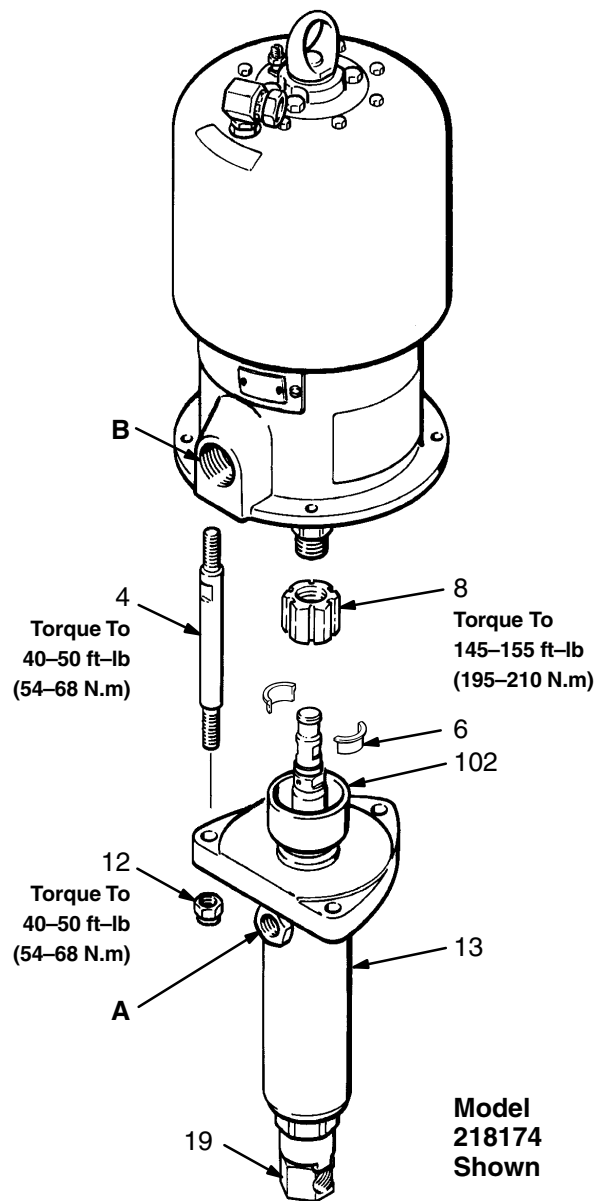

Fig 2
3. Screw the coupling nut (8) off of the air motor piston rod. Be careful not to lose the two couplers (6) as you lower the nut. Unscrew the tie rod locknuts (12) from the tie rods (4). Carefully pull the displacement pump (13) away from the air motor (1). See Fig 2.
1. Align the pump's fluid outlet (A) to the optional fluid outlet (B) of the air motor. Position the displacement pump (13) on the tie rods (4). See Fig 2.
2. Make sure the couplers (6) are in place inside the coupling nut (8). Screw the coupling nut up onto the air motor piston rod snugly. Screw the locknuts (12) onto the tie rods (4) loosely.
4. Tighten the tie rod locknuts (12) evenly, and torque to 40–50 ft–lb (54–68 N.m). Torque the coupling nut (8) to 145–155 ft–lb (195–210 N.m).
5. Start the pump and run it slowly, at about 40 psi (2.8 bar) air pressure, to check the tie rods for signs of binding. Adjust the tie rods as necessary to eliminate binding. Tighten the packing nut/wet-cup (102) with the wrench (14) supplied, so it is just snug – no tighter. Fill the wet-cup half full with Graco Throat Seal Liquid or compatible solvent.
2. Unscrew the intake valve (119) from the pump housing (101). See Fig 3. Unscrew the elbow (19) from the intake valve (*Pump Models 218174 and 223601 only; see Fig 2*).
12. Loosely install the packing nut (102).
13. Carefully insert the displacement rod (103) up through the bottom of the pump housing (101). Push it all the way up until the connecting rod (131) (model 220504 only) protrudes from the packing nut (102).
14. Install a new o-ring (117*) on the intake valve (119) and then install the pin (116) in the ball guide (118), making sure the pin is in the correct set of holes. Install the ball (120*) and ball guide (118) in the intake valve (119). Screw the intake valve (119) into the pump housing (101), torquing to 90–100 ft-lb (122–136 N.m). *On Models 218174 and 223601 only*, reinstall the elbow (19) in the intake valve. See Fig 2.
15. Tighten the packing nut (102) just enough to stop leakage, but no tighter.